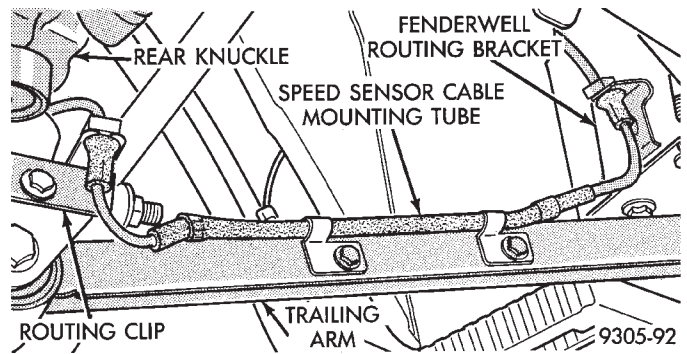

Fig. 16 Speed Sensor Routing Tube And Bracket
(4) If vehicle is equipped with Anti-Lock Brakes. Mount rear speed sensor cable routing tube to the rear trailing arm and speed sensor cable routing bracket to trailing arm bracket at rear spindle (Fig. 16).